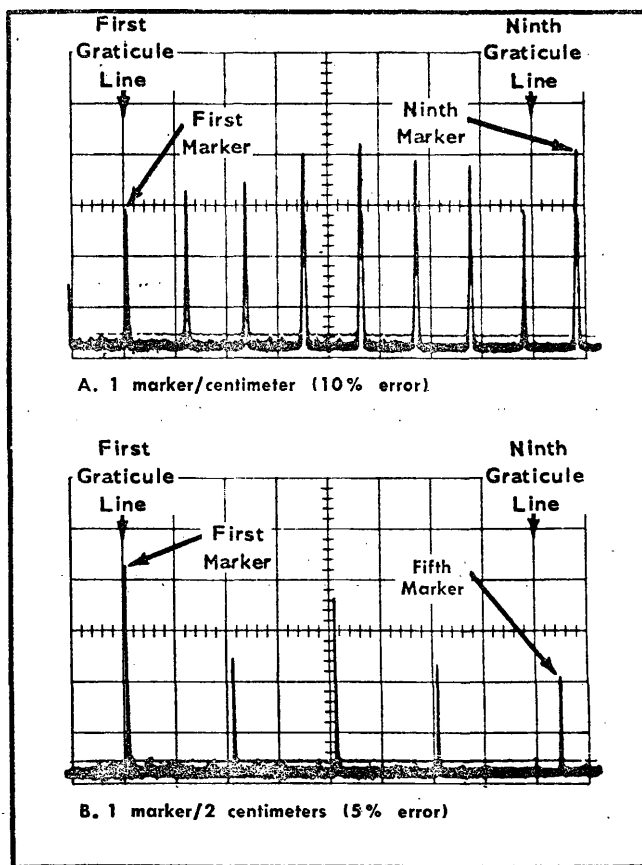

Fig. 6-5. Typical dispersion accuracy displays (step 2).
Dispersion accuracy is a measure of the frequency dispersion error within 8 centimeters of a 10 centimeter display. It is measured by positioning a frequency marker on the 1st graticule line, then noting the frequency error as the distance the respective marker is displaced from the 9th graticule line. See Fig. 6-5.
c. Adjust the GAIN control for a display amplitude of approximately 3 to 4 centimeters. See Fig. 6-5. Set the Oscilloscope Source switch to Line and adjust the Level control for a triggered display.
d. Check the frequency range, dispersion accuracy and linearity over the IF CENTER FREQ control range in the 5, 2, 1, .5 and .2 MHz positions of the DISPERSION selector. See Fig. 6-5.